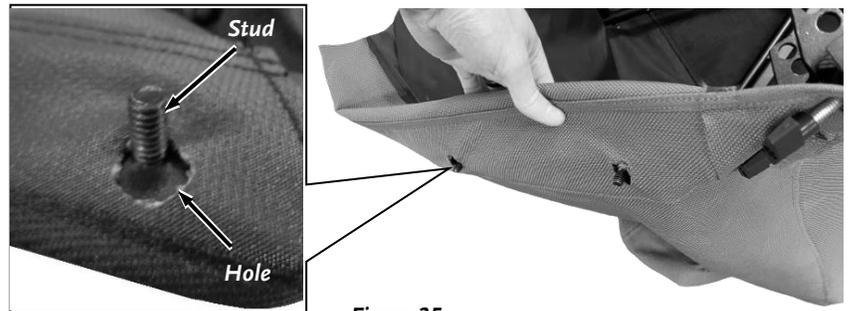

Figure 35
2. Align the studs through the holes in the canvas (**Figure 35**).